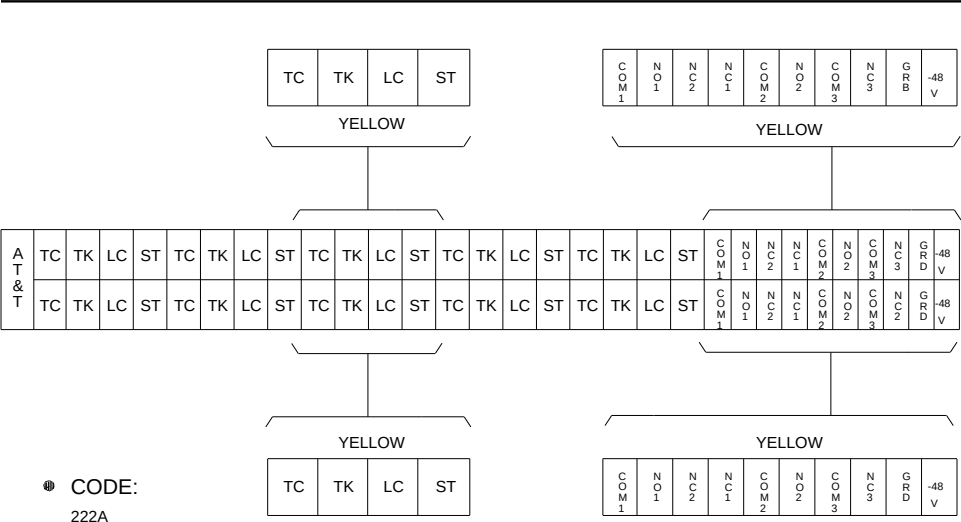

Figure 9-27. 574-5 Power Transfer Unit Label
Both sections of the label shown in Figure 9-27 identify leads to the 574-5 power transfer unit.
- (2) 574-5 Power transfer unit labels (Figure 9-27)